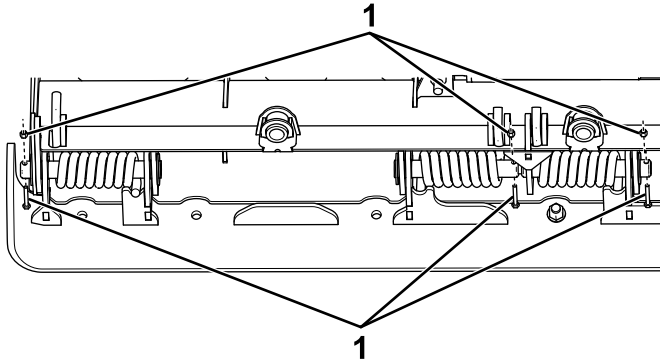

Figure 49
4. Remove the fasteners securing the spring pins (Figure 49).